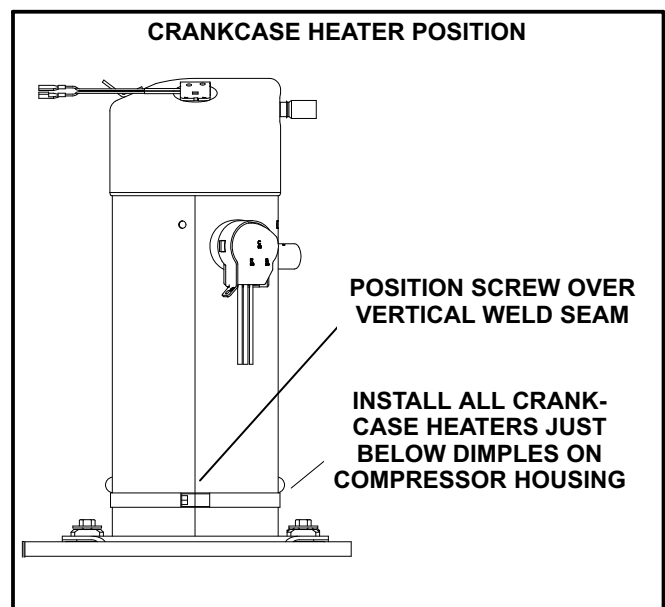

FIGURE 1
- 2- Position crankcase heater below dimples on compressors as shown in figure 1. Position belly-band screw over the vertical weld seam on the compressor. Tighten belly-band screw to secure in place.